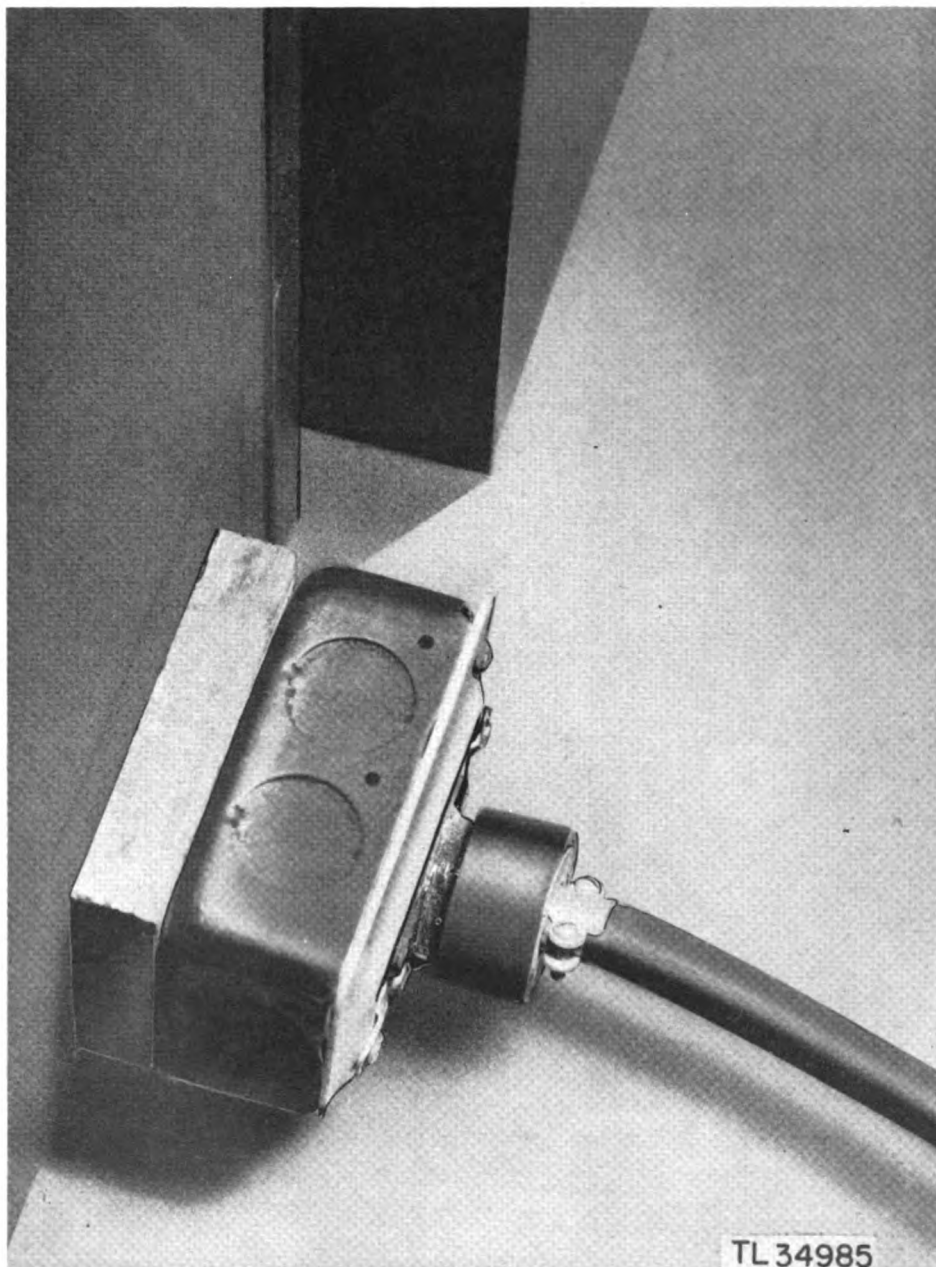

Figure 36. Power entering control cabinet.
- a. Be sure that the line to the primary power supply, figure 36, is plugged in.